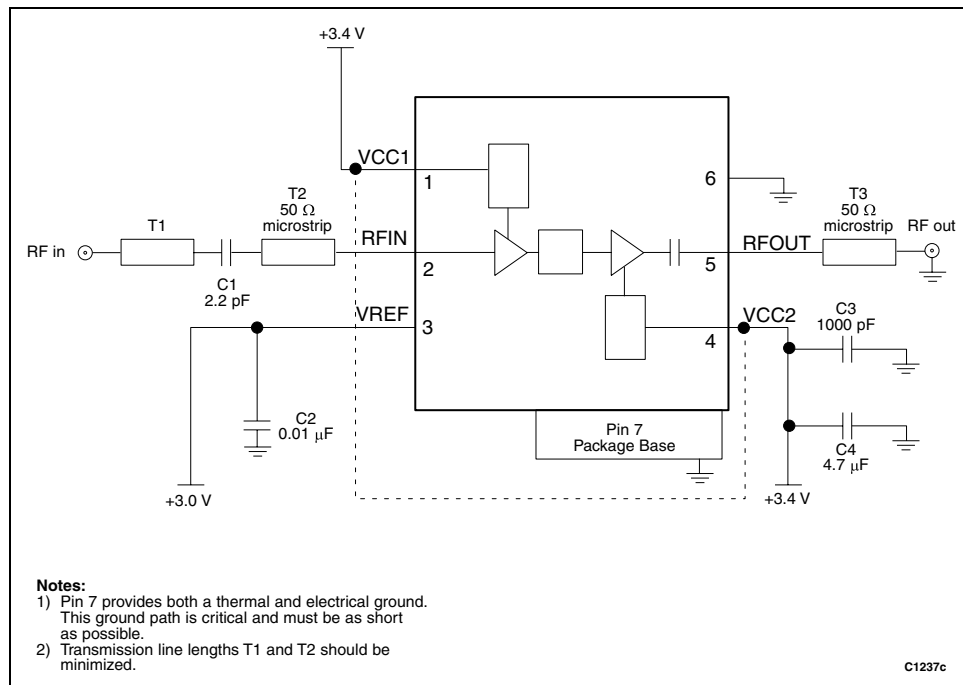

Figure 9. Evaluation Board Schematic, 1700 MHz to 2200 MHz
Conexant's CX65102 Evaluation Board is used to test the CX65102 power amplifier's performance. The CX65102 Evaluation Board schematic diagram is shown in Figure 9. The schematic shows the basic design of the board for the 1700 to 2200 MHz range. Figure 10 provides the Evaluation Board assembly diagram. Figure 11 provides the Evaluation Board layer detail.
3. Two external output bypass capacitors, 1000 pF and 4.7 μ F, are required on the VCC2 (pin 4) supply input. The same two capacitors are also required on the VCC1 supply input, but VCC1 and VCC2 are hardwired together on the Evaluation Board (see Figure 9). Both capacitors should be placed in parallel between the supply line and ground. Also, a bypass capacitor of 0.01 μ F is required on the VREF input (pin 3). See Figure 9 for a detailed diagram.